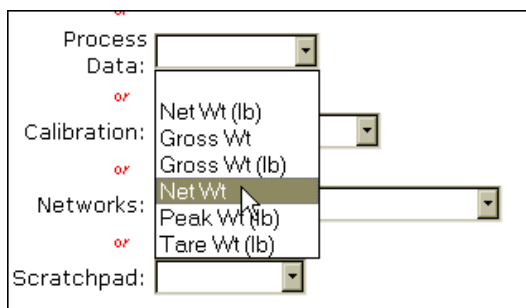

FIG. 273: MAPPING PAGE 2 SELECTING NET WEIGHT
- Step 17. Click on the Process Data pull down list. (See Fig. 273)